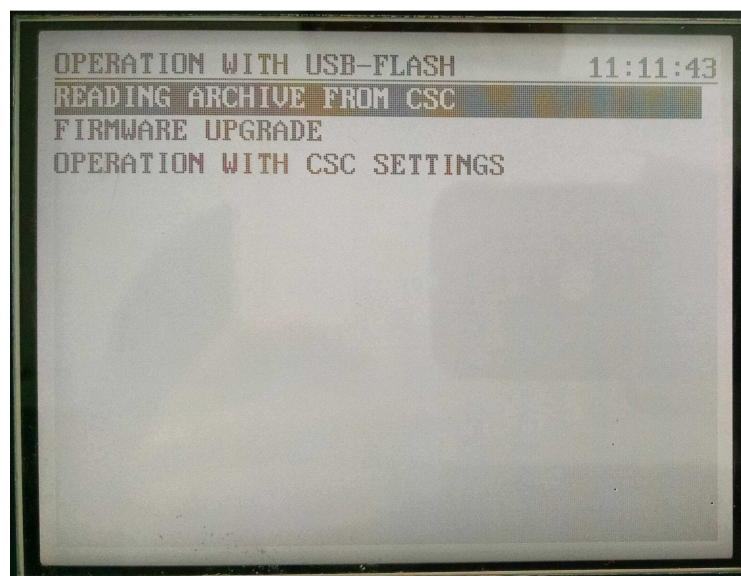

Figure 1.
And the controller display will show the USB memory stick operation menu (see Figure 1).
4.1.4 To read the CS event archive select the option «READING ARCHIVE FROM CSC» (see Figure 1). And the process of copying the event archive file to the connected memory stick is started. All the archives from the CS are stored in the directory IRZ of the